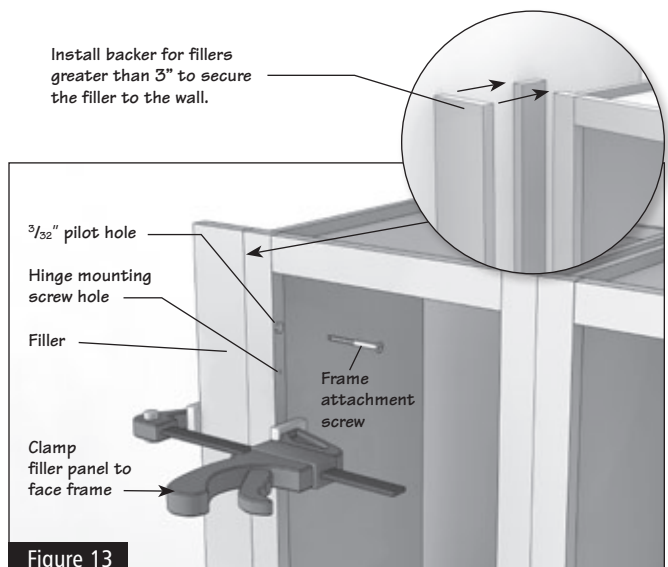

Figure 13
- 4.3** Fasten the filler to the cabinet with #8 x $2\frac{1}{2}$ " frame attachment (trim head) screws. (Figure 13)